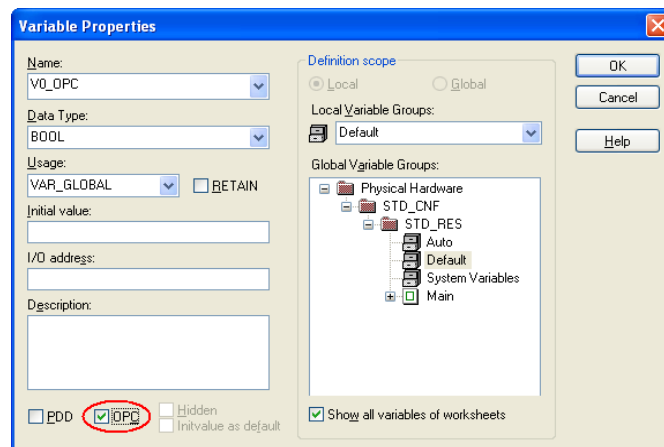

Figure C-2 Creating variables for AX OPC Server
- When creating variables in the "Variable Properties" window (Figure C-2)